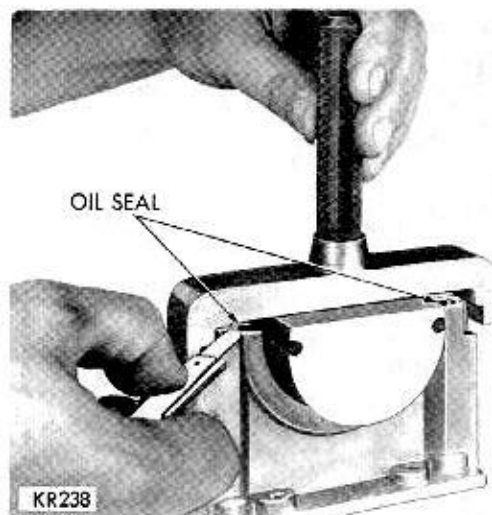

Fig. 35—Trimming Rear Main Bearing Lower Oil Seal
- (2) Install bridge on tool and tap the seal down into position with Tool C-3743 until tool is seated.
- (3) Trim off that portion of the seal that protrudes above the cap (Fig. 35).